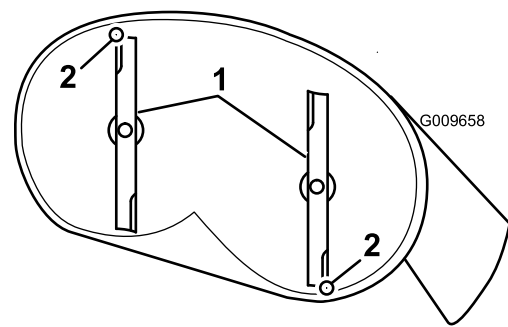
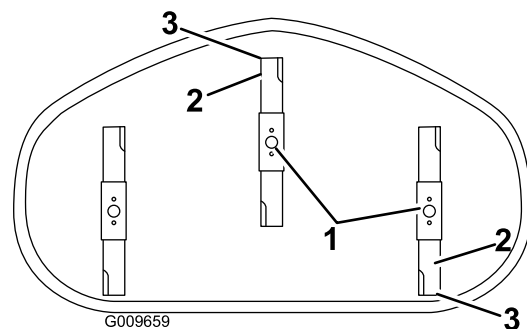

Figure 61
Figure 62
5. Measure from the tip of the front blade to the flat surface, and the tip of the rear blade to the flat surface (Figure 61 and Figure 62).
4. Carefully rotate the blades so they are facing front to rear (Figure 61 and Figure 62).
9. After adjustment, check the front-to-rear slope again, continue adjusting the nut until the front blade tip is 1.6 to 7.9 mm (1/16 to 5/16 inch) lower than the rear blade tip (Figure 61 and Figure 62).